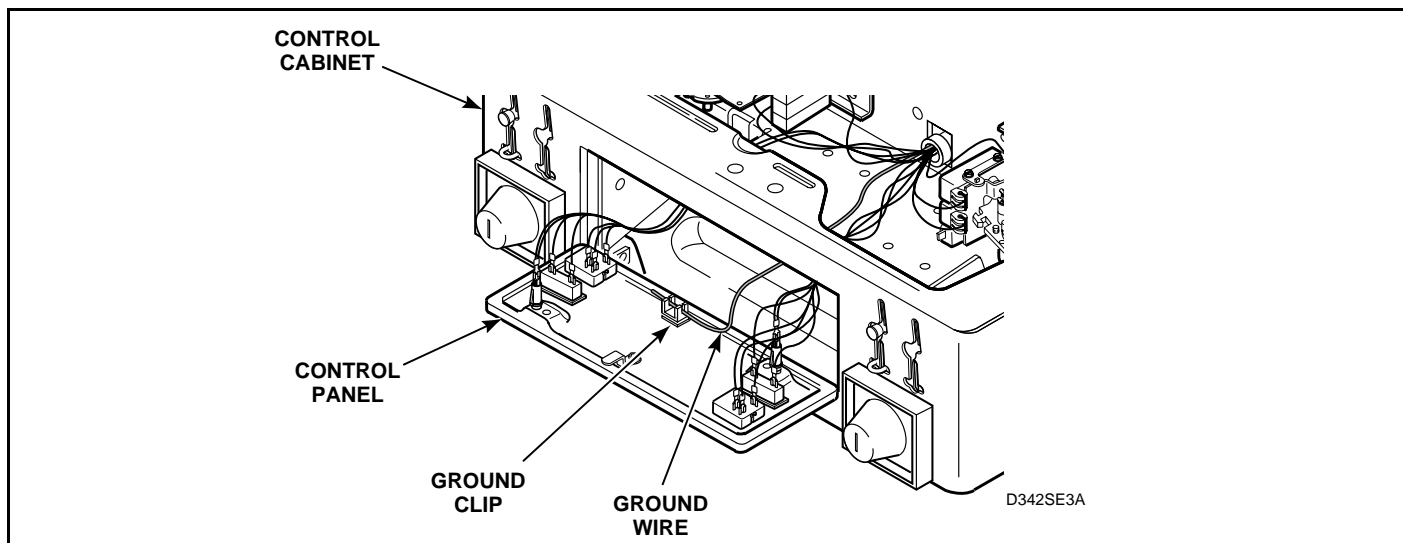

Figure 6
- Disconnect all wires to components. See *Figure 6*.
- Remove ground clip holding ground wire to control panel. See *Figure 6*.
- d. Disconnect all wires to components. See *Figure 6*.
- e. Remove ground clip holding ground wire to control panel. See *Figure 6*.
- (4) Disconnect all wires to components. See *Figure 6*.
- (5) Remove ground clip holding ground wire to control panel. See *Figure 6*.